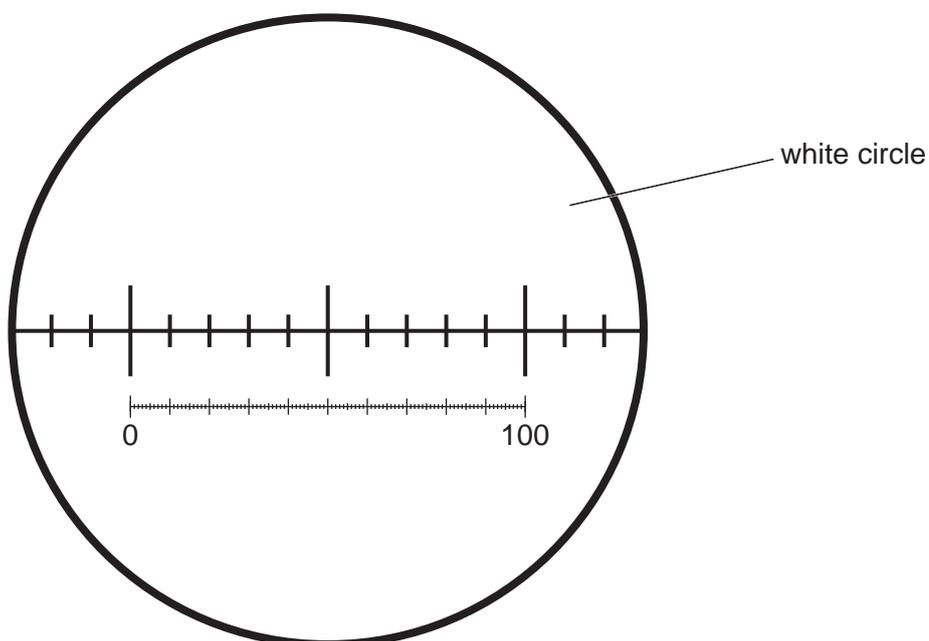

Fig. 2.2
Fig. 2.2 shows a stage micrometer viewed through a microscope with an eyepiece graticule scale.
- find the area of the field of view, using Fig. 2.2
Fig. 2.3 is a photomicrograph of the lower surface of a leaf, with the same field of view as in Fig. 2.2.